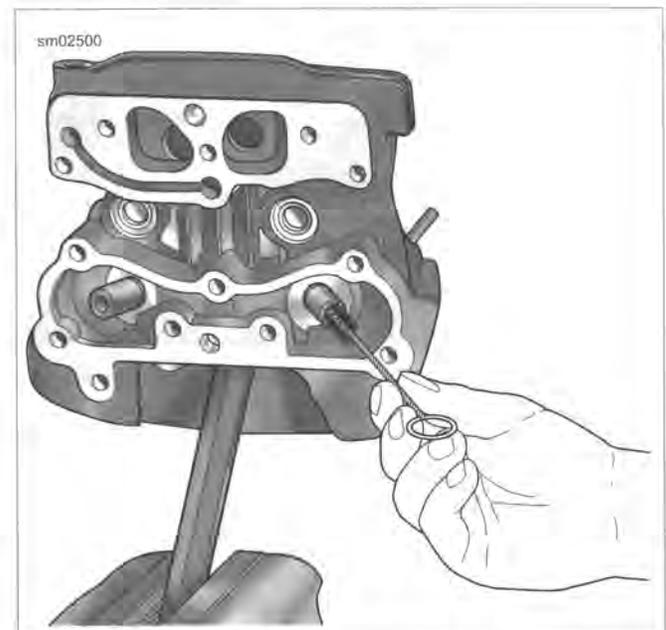

Figure 3-45. Scrubbing Valve Guide Bore
7. See Figure 3-45. Clean valve guide bore with the VALVE GUIDE CLEANING BRUSH (Part No. HD-34751).